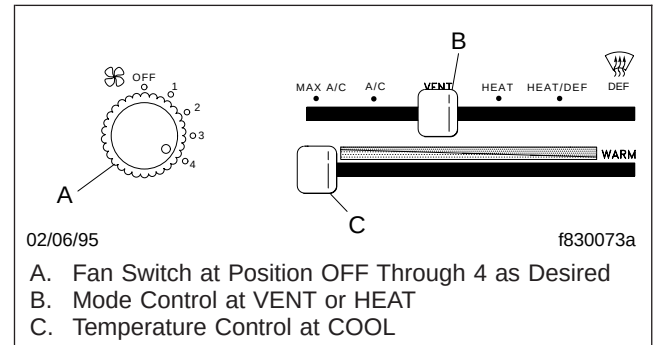

Fig. 4.9, Settings for Maximum Ventilation
1. Move the mode control to VENT or HEAT. See Fig. 4.9. In the VENT position, air comes out of the dashboard outlets but not out of the floor outlets. In the HEAT position, air comes out of the floor outlets and the outlets on either end of the